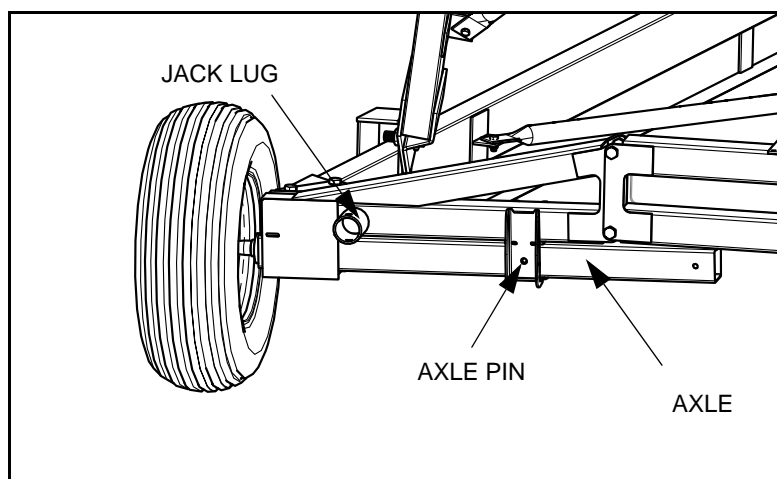

Figure 4.1 Retract Wheel Axles
2. Fully retract wheel axles. Jack up each wheel in turn, and secure axles with axle pin and snap pin. See Figure 4.1 for jack lug and axle pin locations.